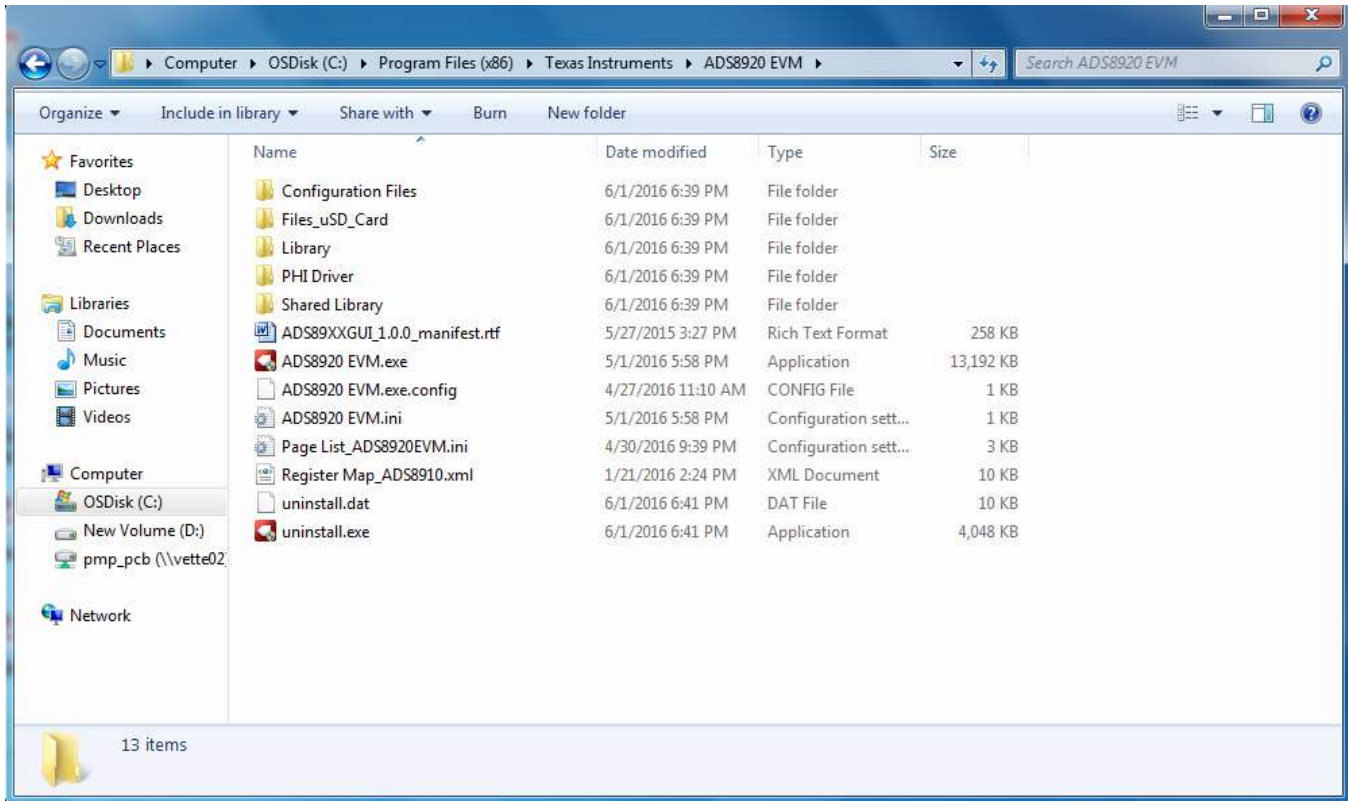

Figure 8. Launch the EVM GUI Software
3. Launch the ADS8920BEVM GUI software, as shown in Figure 8.